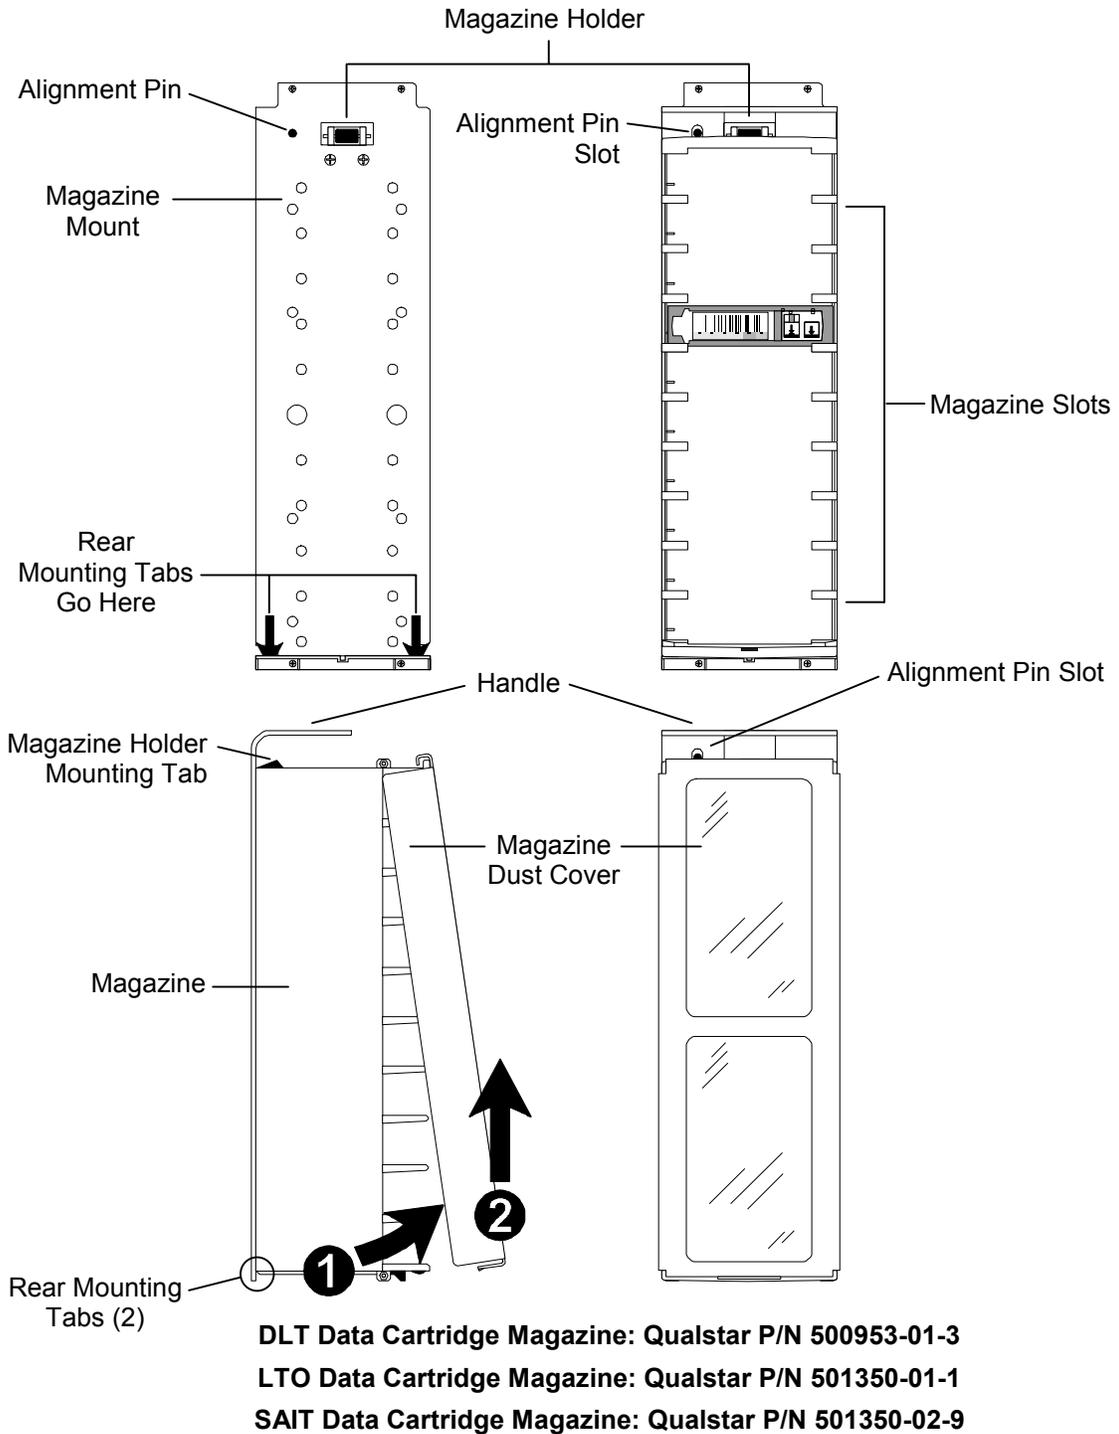

Figure 5-33 Magazine and Magazine Mount (DLT model shown)
1. Make certain that the Write Enable/Protect tab is set correctly for the intended use (see Figure 5-32). Write must be enabled for backup operations. Refer to Figure 5-33 to determine the correct orientation of the magazine.
Refer to Figure 5-33 for this procedure.